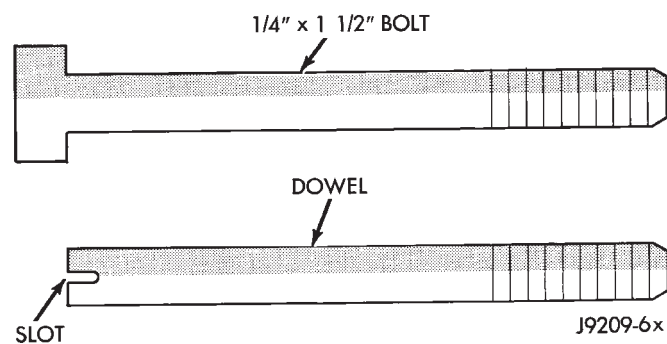

Fig. 1 Fabrication of Alignment Dowels
- (1) Fabricate 4 alignment dowels from 1/4 x 1 1/2 inch bolts. Cut the head off the bolts and cut a slot into the top of the dowel. This will allow easier installation and removal with a screwdriver (Fig. 1).